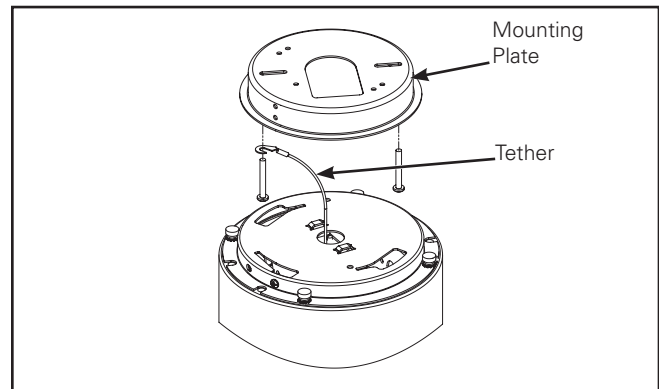

Figure 3.
4. Attach tether under one Junction Box mounting screw (Figure 3.).